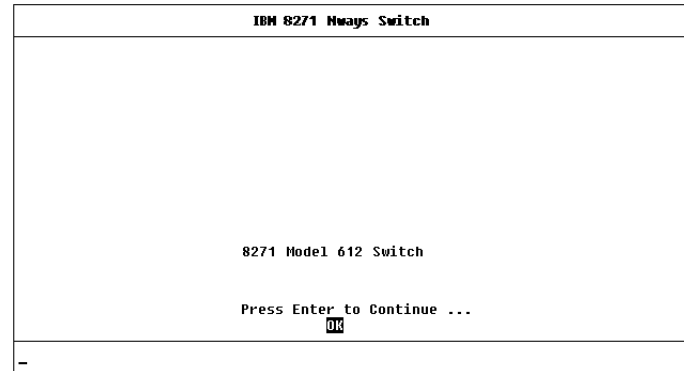

Figure 3-1 Main Banner (Model 612)
- 1 At your terminal, press [Return] two or more times until the Main Banner is displayed (shown in Figure 3-1). The console port detects the line speed (baud rate) from these keystrokes and defaults to: